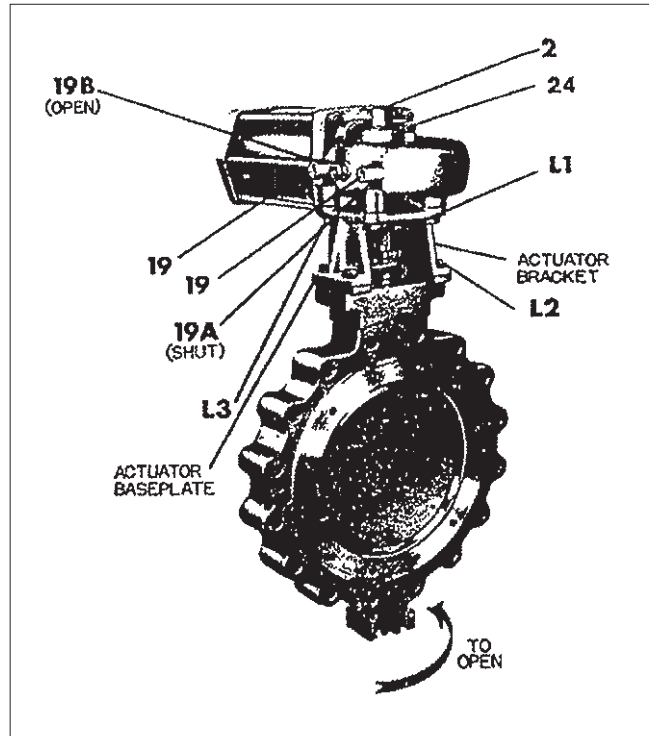

Figure 5.
7.3 SETTING STOPS ON ST AND ST-MS PNEUMATIC ACTUATORS (FIG. 5)